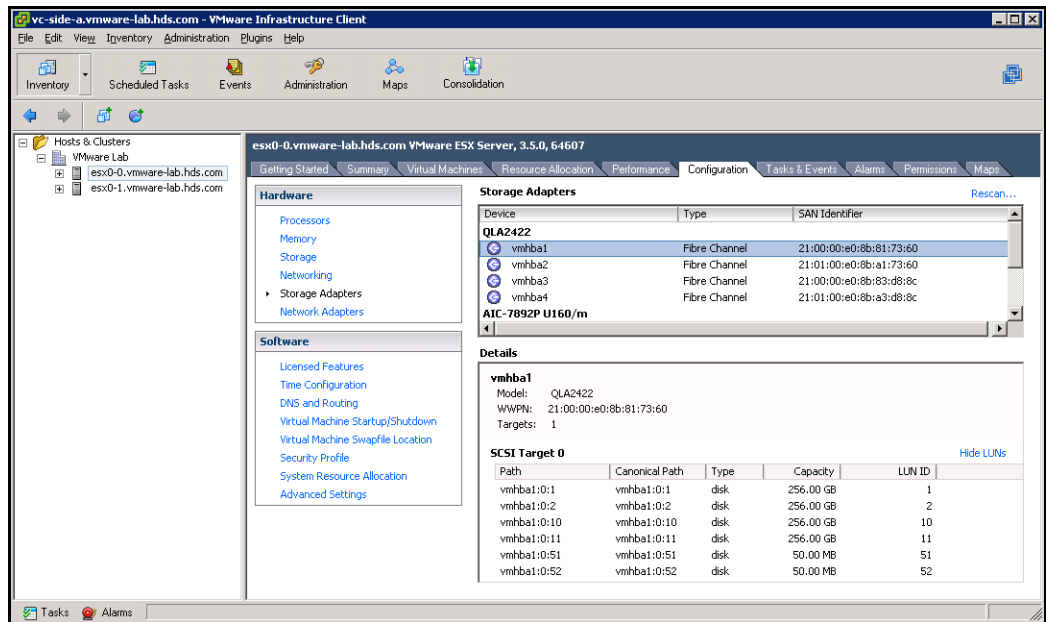

Figure 4-11: Example of Initial VMware Infrastructure Client Page
- c. Under **Hardware** on the left side of the page, click **Storage Adapters**. A page similar to the one in Figure 4-11 on page 4-13 appears.